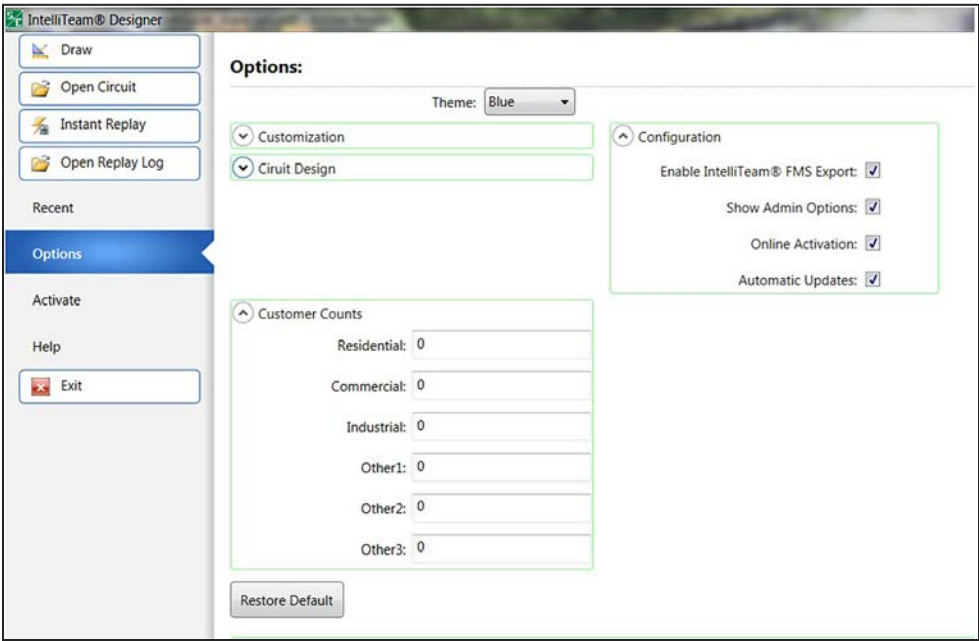
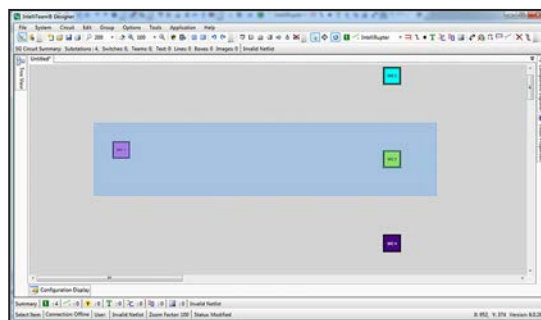

Figure 33. The start-up menu Options>Customer Counts section.
Figure 38. Align SRC 1 and SRC 3.
This setting adds customer counts to each team that will be used by the IntelliTeam FMS Feeder Management System for reliability calculations (e.g. CAIDI, CMI, etc.). Six fields can be configured: **Residential**, **Commercial**, **Industrial**, **Other 1**, **Other 2**, and **Other 3**. The default entry is 0, but the default entries can be modified in the **Start-up** menu under *Options>Customer Counts*, shown in Figure 33.
STEP 5. Select SRC 1 and SRC 3. If SRC 1 is above SRC 3, as is the case in Figure 33, click on the Align Bottom tool. If SRC 1 is below SRC 3, click on the Align Top tool. This action will result in SRC 1 and SRC 3 being in line and vertically centered with relation to SRC 2 and SRC 4. See Figure 38.